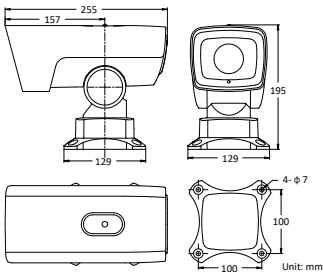

Figure 2-55 Base-mounted PTZ Bullet Camera
2. Insert four M6 hexagon socket screws (with length of 30 mm) through the camera bracket and the plane structure, and then lock the screw nuts to fix the camera, as shown in Figure 2-55.